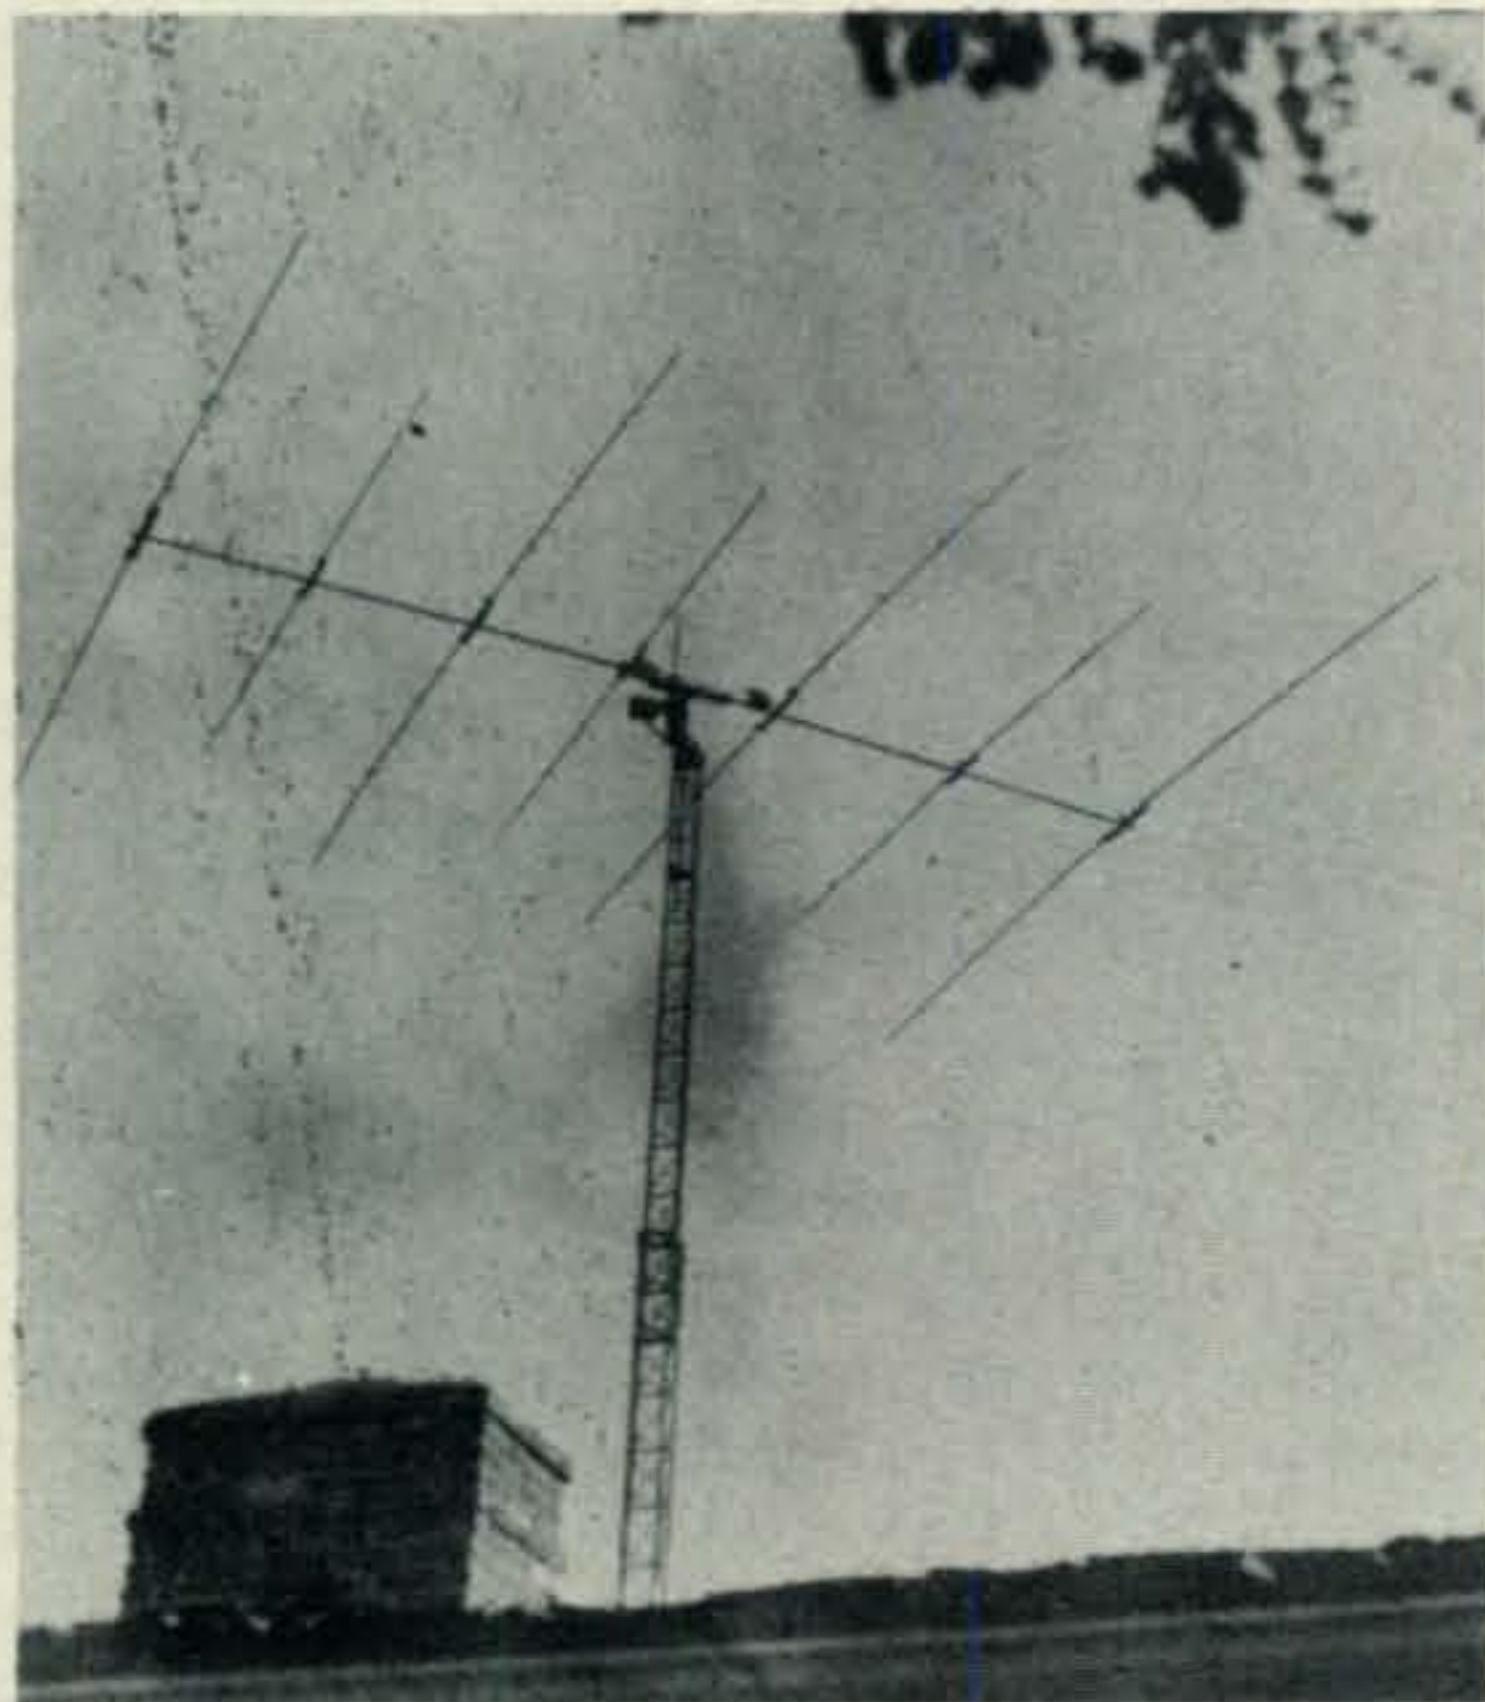
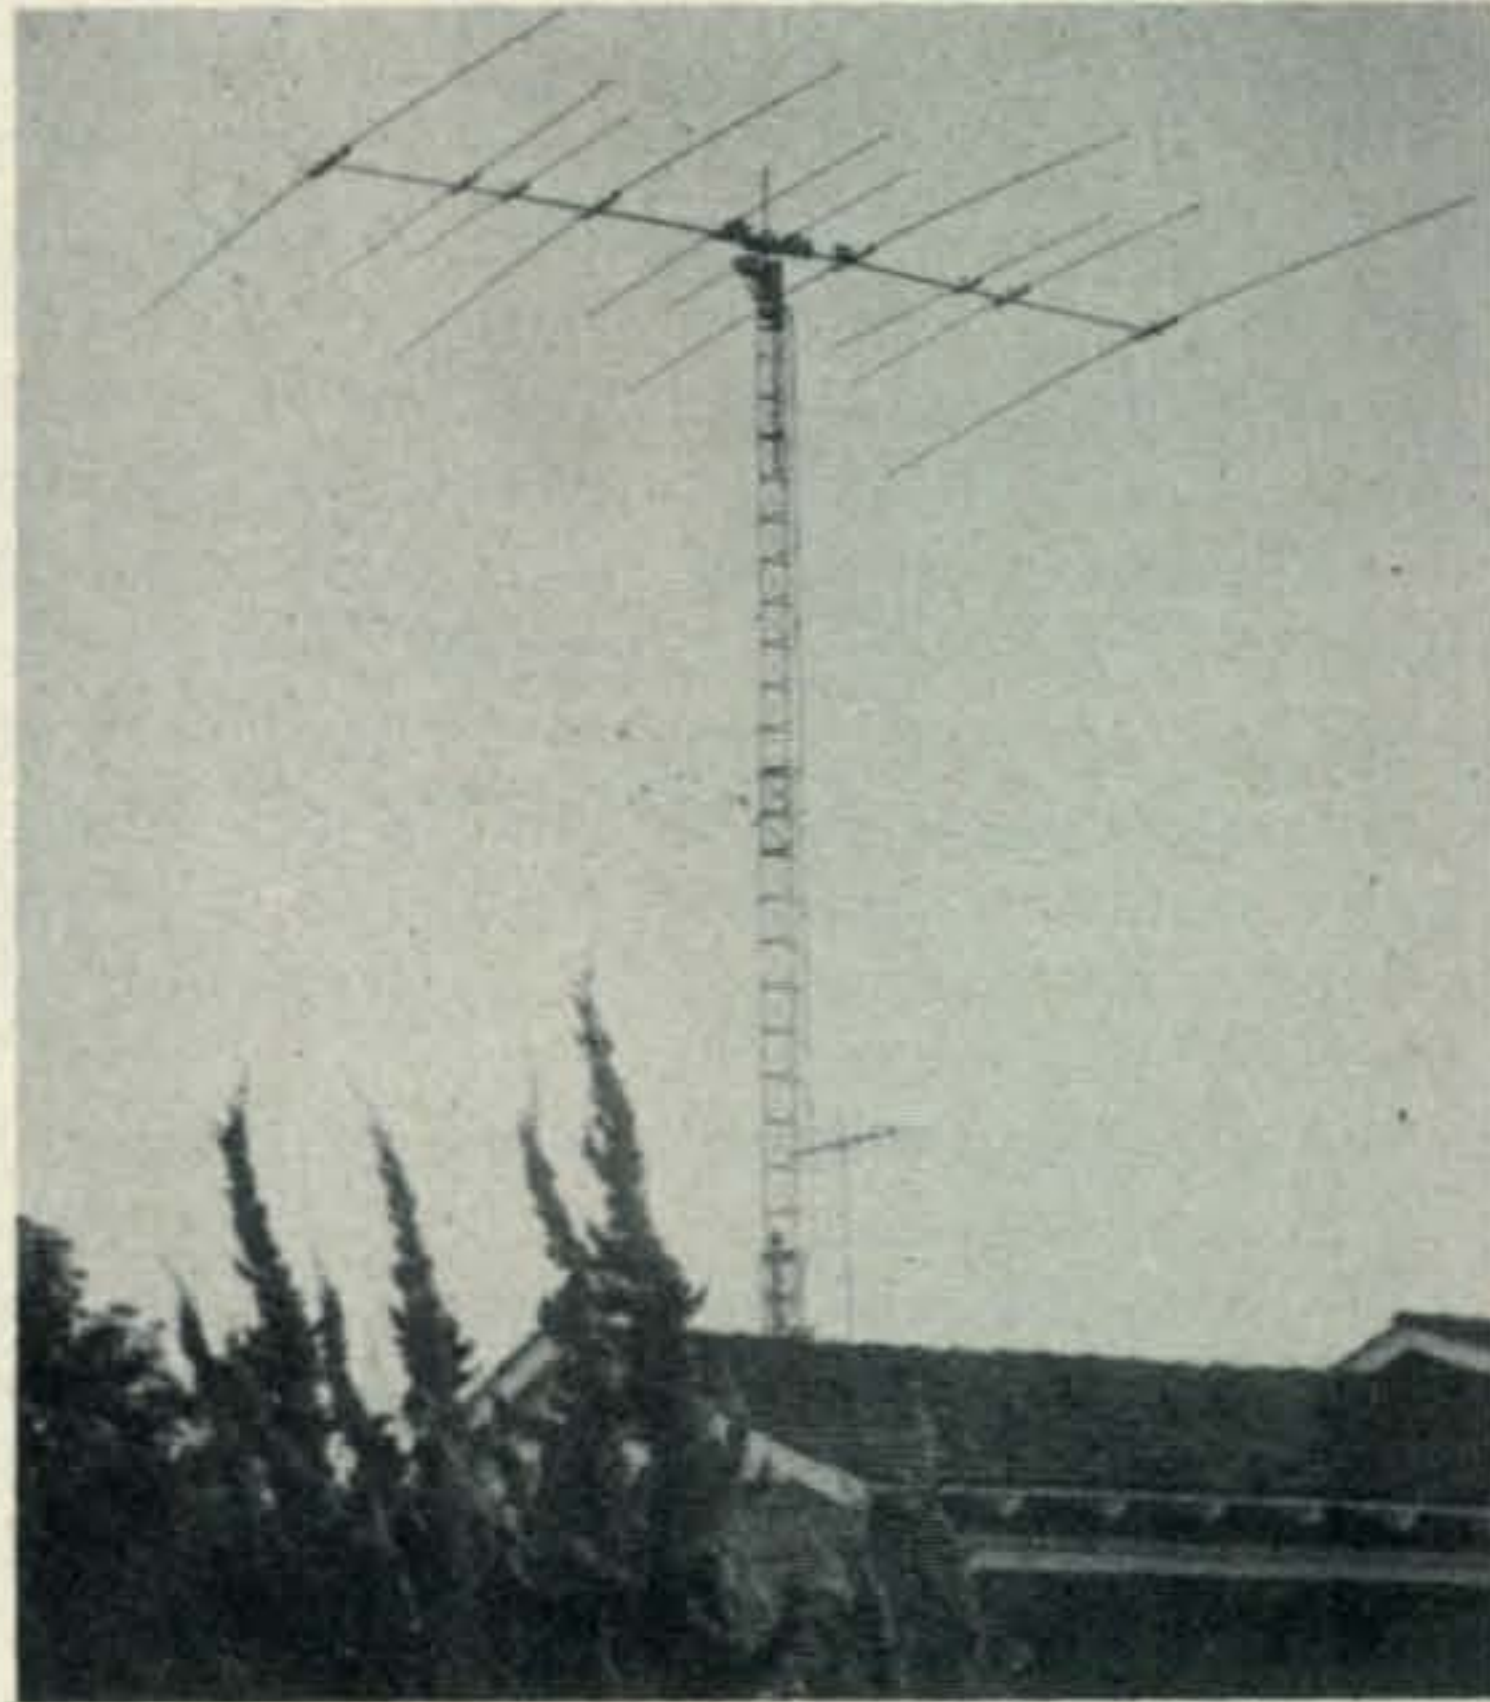

Fig. 1—Photograph taken in December, 1965, after three 15 meter elements were combined with four 20 meter elements on a 36 foot boom.
Fig. 2—Recent photograph showing three 10 meter elements intermixed with the 15 and 20 meter elements shown in fig. 1.
**S**TARTING with a four element 20 meter array built in August, 1964, three 15 meter elements were added in December, 1965, as illustrated in fig. 1. Three 10 meter elements were recently added, giving the composite structure pictured in fig. 2. This article describes certain tests with these Yagi-Uda arrays including three alternate methods of